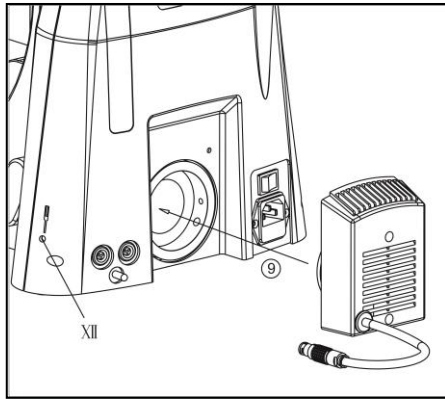

Fig 12
#### **4-2-9 Install The LED Lamp Chamber(fig 12)**
Insert the lamp box into the position at back of chassis base according to the path ⑨ shown in the figure 12.